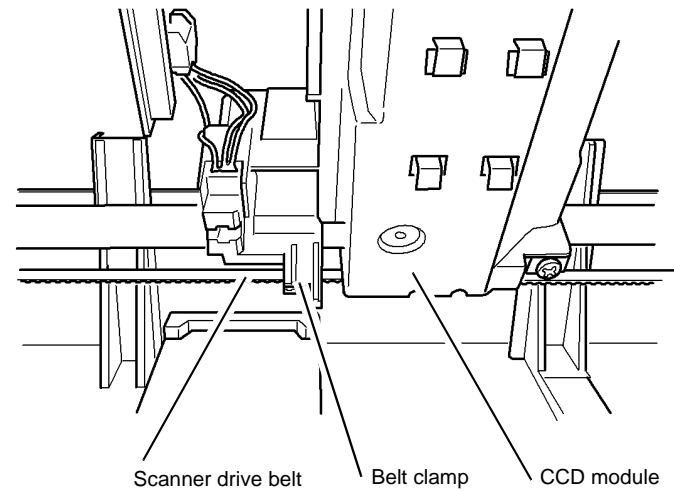

Figure 6 CCD module replacement
- Ensure that the scanner drive belt is installed correctly into the belt clamp on the CCD module, Figure 6.